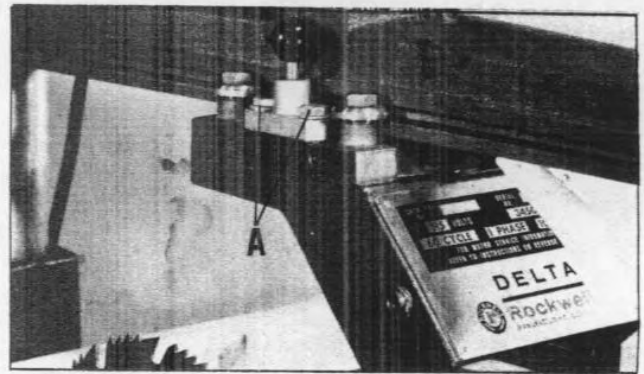

Fig. 30
4. Loosen two screws (A) Fig. 30, and swivel the yoke until the saw blade is parallel with the square. Then tighten yoke clamping handle and two screws (A) Fig. 30.